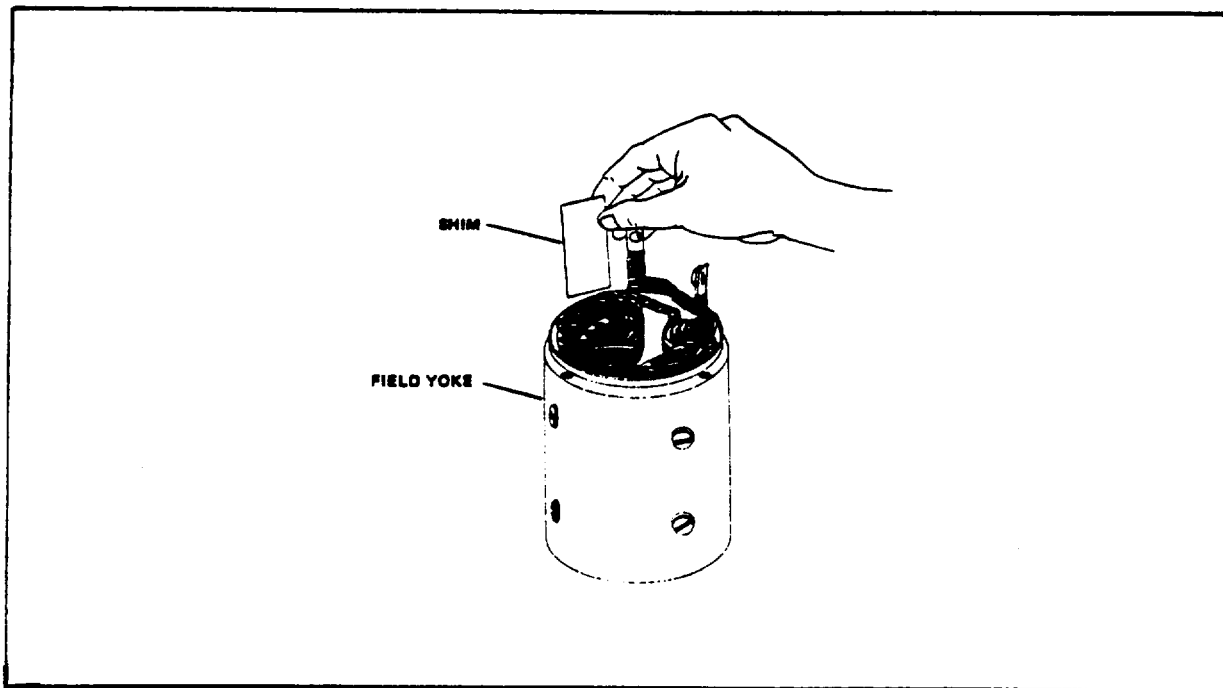

Figure 3-3. Removing Shims
8. To remove field coils remove pole retaining screws and note the quantity of shims behind each pole shoe (Fig 3-3).